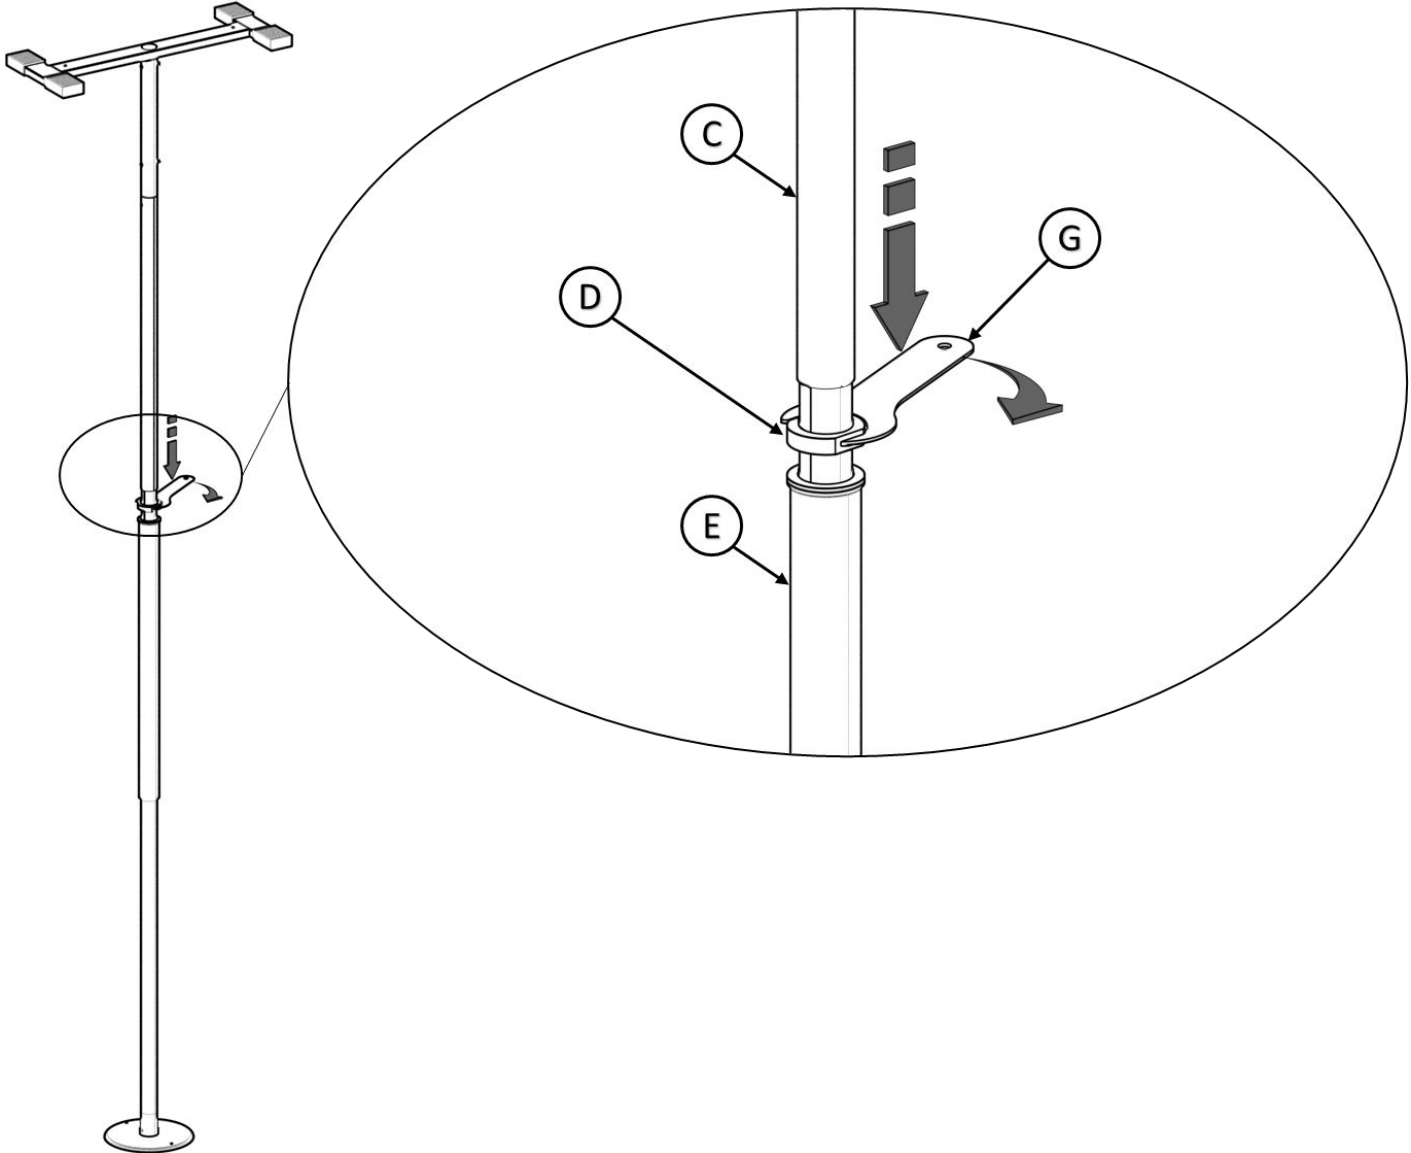

FIGURE 6
6. Making sure the Product is level, tighten **D** using **G** as shown in *FIGURE 6*, until the product is secured between the floor and ceiling with ABSOLUTELY NO sliding of the product between them.